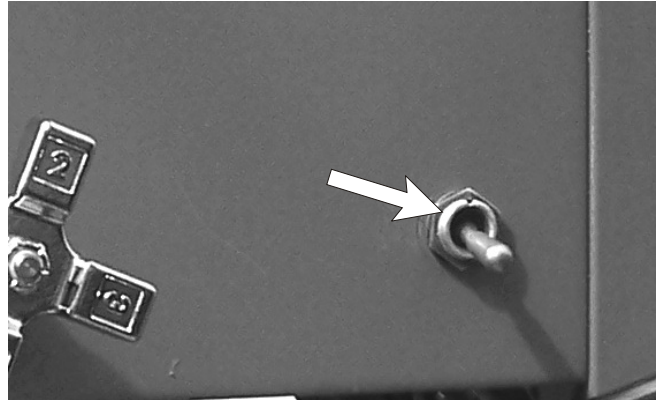

Figure 7.12 - Platform / Ground Selector Switch
2. **Platform / Ground Selector Switch:** Located at the rear of the column (see Figure 7.12) adjacent to the emergency lower valve. Select PLATFORM or GROUND operation. Whichever station is selected, the other becomes inoperative.